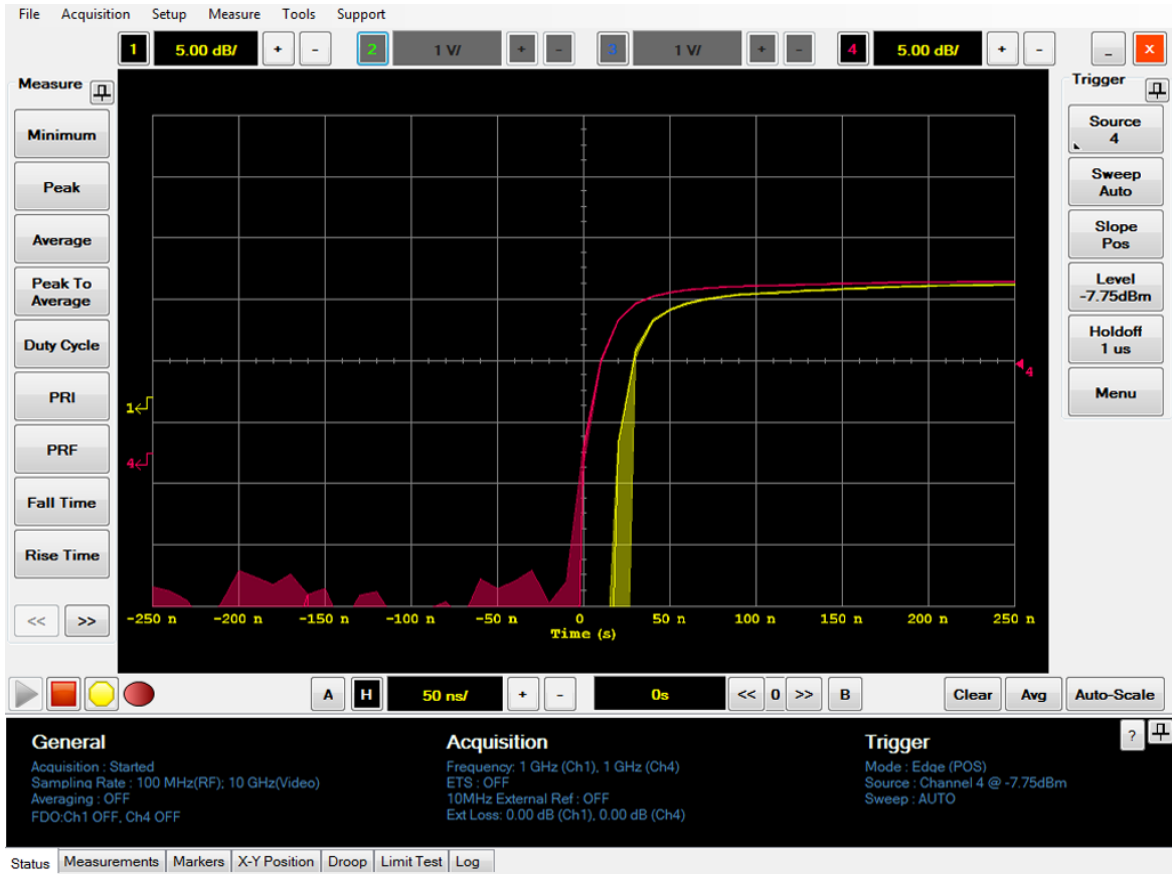

Figure 2-153 Example of the waveform display with the waveform minimum and maximum tracking feature enabled
- 4 An example of the waveform display with the waveform minimum and maximum tracking feature enabled is as shown in Figure 2-153.